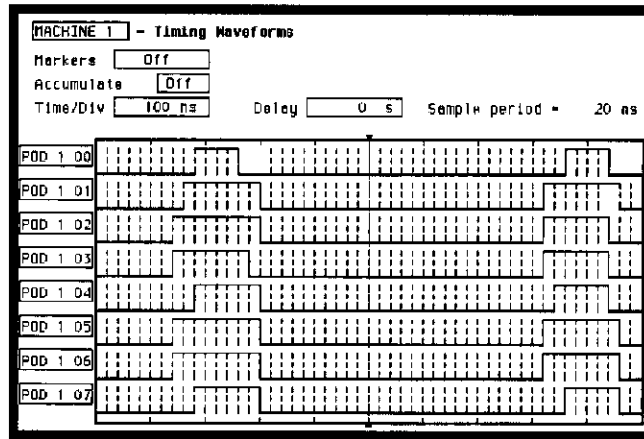

Figure 3-34. Glitch Test Timing Waveforms
6. Press RUN. The timing analyzer acquires data and shows glitches for channels under test as in figure 3-34. **SELECT** Delay field and rotate knob to assure consistent glitch detection.